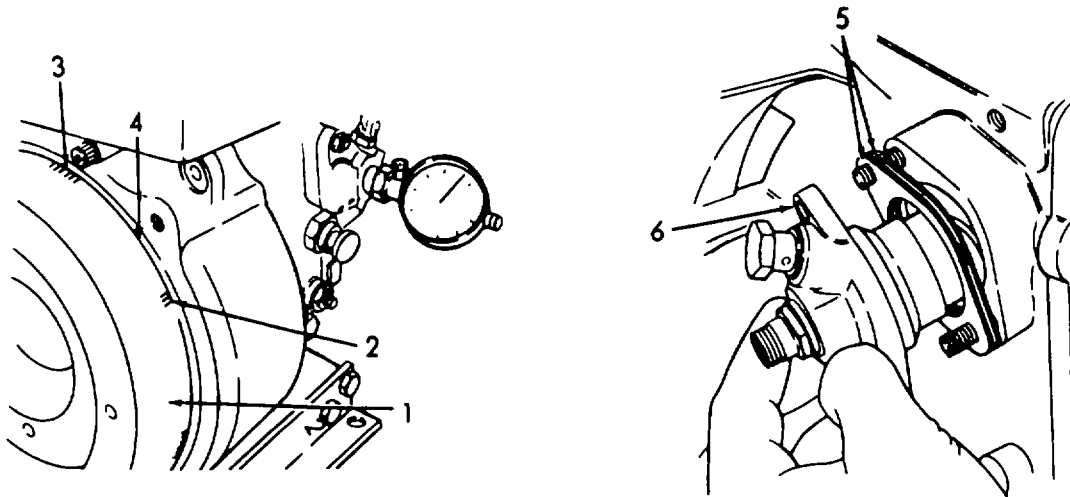

Figure 5-11. Fuel Injection Pump Delivery and Adjustment.
- (9) Adjustment of Delivery End. (Refer to figure 5-11).